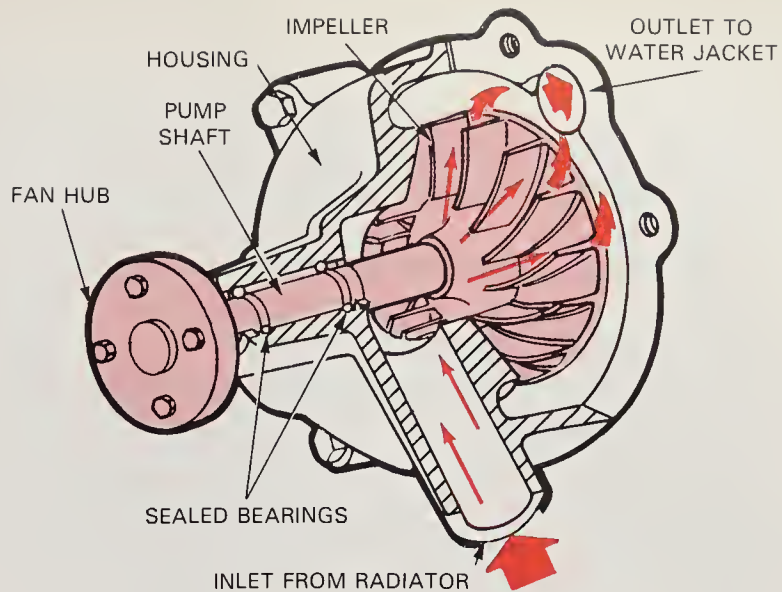

Fig. 35-5. Cutaway of simplified water pump. Note how spinning impeller throws coolant outward to produce pressure and flow. (Mopar)
1. **WATER PUMP IMPELLER** (disc with fan like blades that spins and produces pressure and flow, Fig. 35-5).